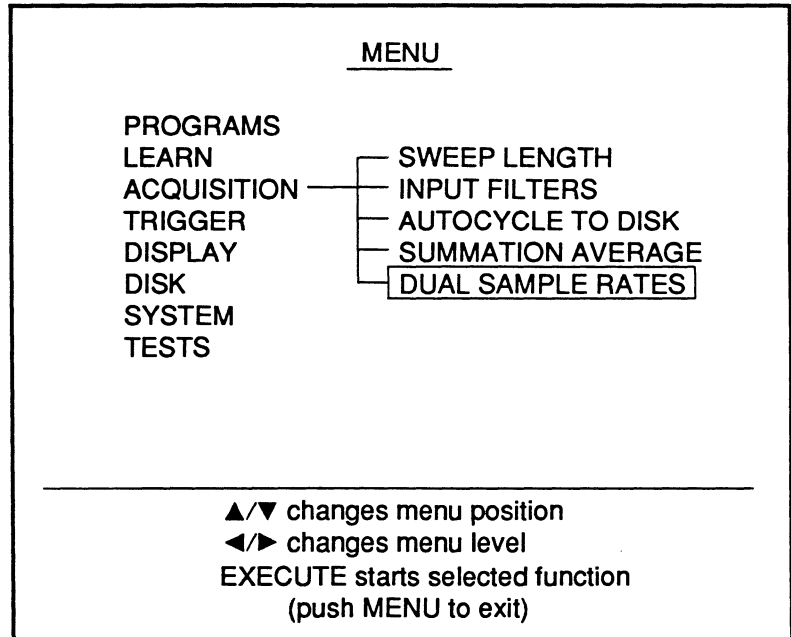

Figure 1 - Dual Sample Rates
1. Press the Menu button. The Menu screen appears (Figure 1).
2. Using the Cursor buttons, select the ACQUISITION menu and then select DUAL SAMPLE RATES as shown in Figure 1.
6. To set the Time Per Point value for channels 1 and 2, highlight the left value (Figure 1) by pressing the Select button and then adjusting the Time control knob until the desired setting appears.
For example, if you set channel 1 to 500 nS and channel 3 to 1.0 μ S as shown in Figure 1, select channel 1 as the trigger source.
Figure 1 - The Time Per Point has been set to 500 nS for channels 1 and 2, and 1.0 μ S for channels 3 and 4 in this example. The Select button is used to choose which pair of channels will be set by adjusting the Time control.